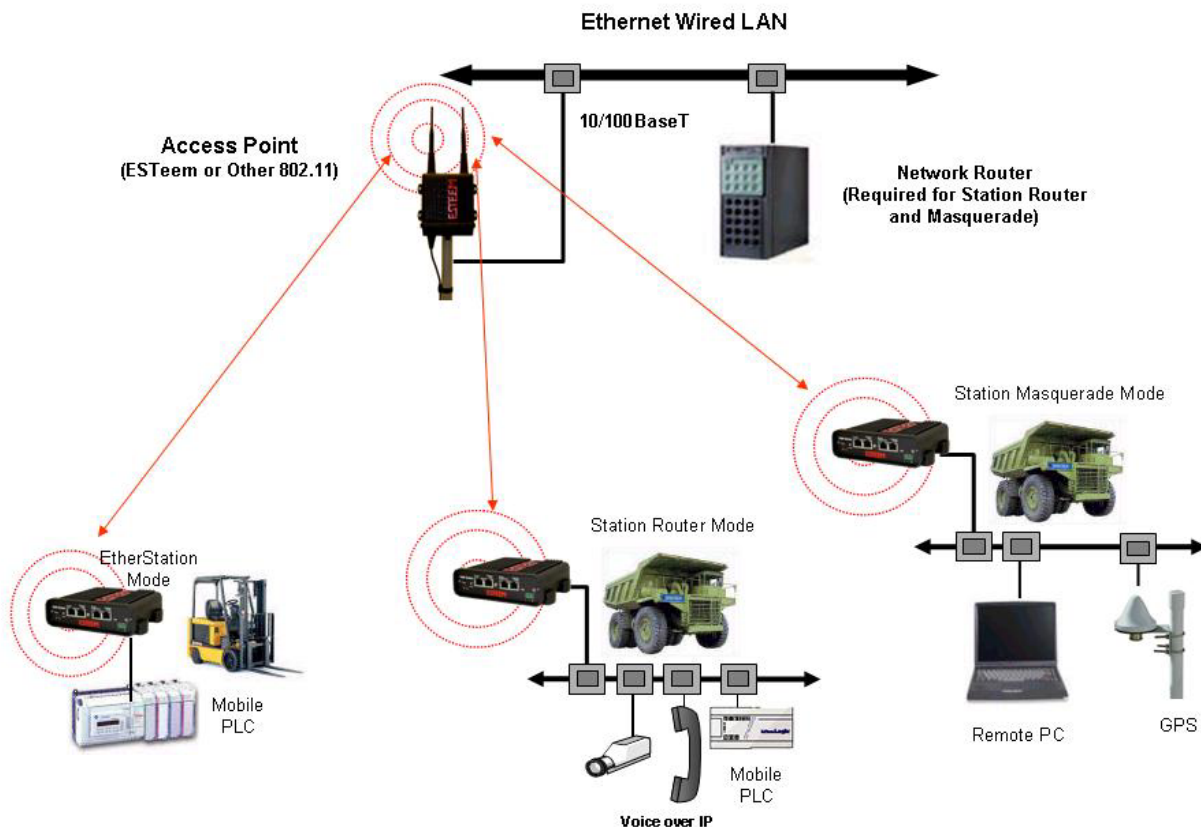

Figure 5: Router Mode Example
The ESTeem 195Ea can also be configured to function as a mobile client. The client modes will allow the 195Ea to seamlessly roam between other 195Ea configured as Access Points (AP). These Access Points can be ESTeem 195Ea's configured in one of the three Access Point modes (AP Bridge, AP Router or AP Masquerade – see above). The client modes will allow mobile Ethernet devices to connect to each other or to an Ethernet LAN through the fixed AP (Figure 5).